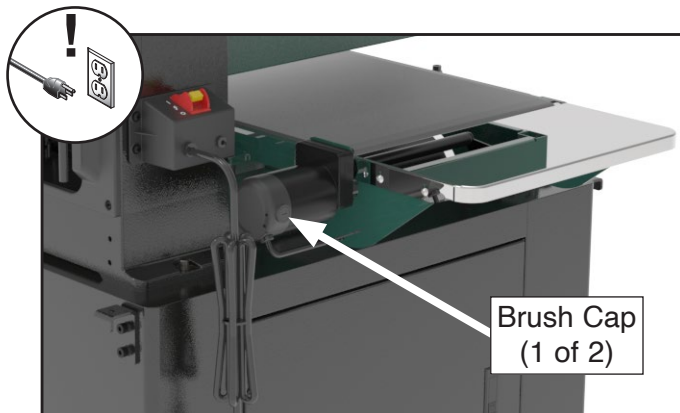
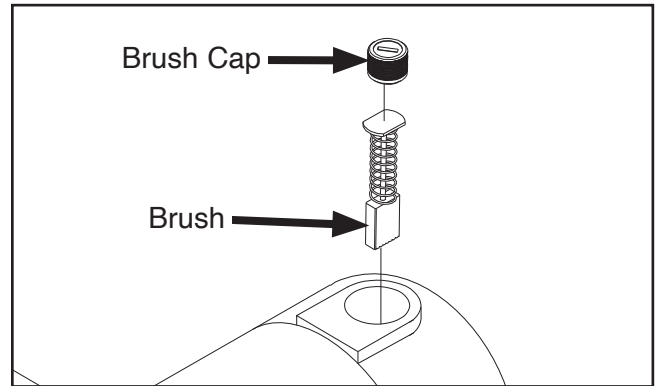

Figure 38. Location of conveyor motor brush cap (G0415 shown).
Figure 39. Location of brush under brush cap.
2. Remove brush cap and worn brush (see **Figure 38–Figure 39**) from conveyor motor.